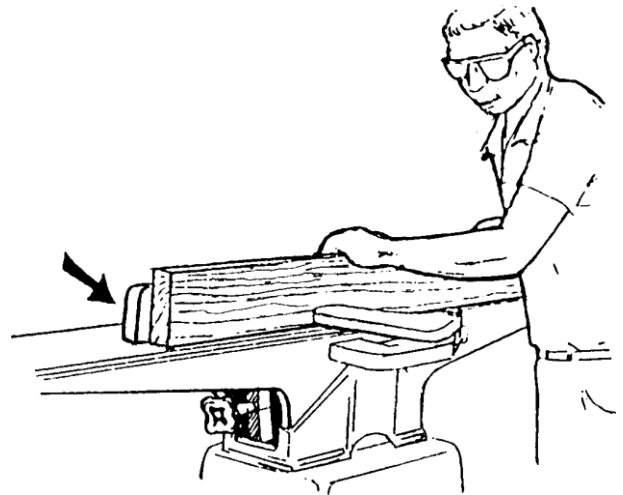

Fig. 37: Move fence forward to expose only the amount of cutterhead required.
4. Keep stock against the fence (Fig. 37).